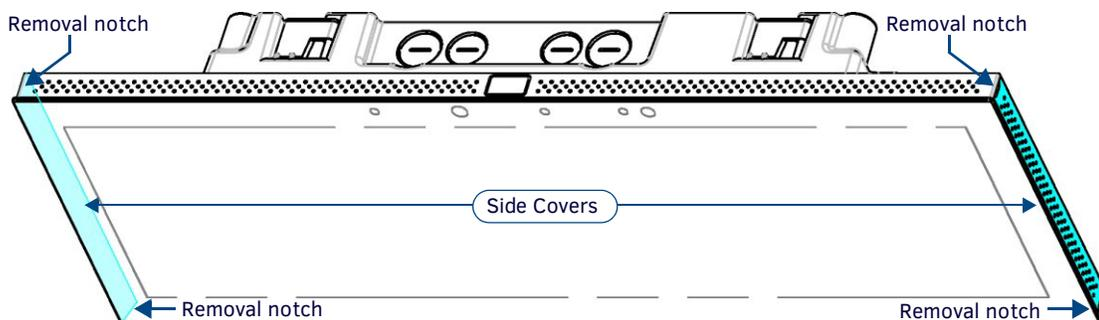

FIG. 35 MXD-1900L-PAN Side Covers (highlighted in blue)
1. The MXD-2000XL-PAN and MXD-1900L-PAN have removable side covers on the left and right (landscape) or top and bottom (portrait) (FIG. 35).
Note that FIG. 35 shows the MXD-1900L-PAN, but the illustration applies equally to the MXD-2000XL-PAN. Also note that FIG. 35 shows a landscape panel but the installation of a portrait panel is essentially the same, other than the vertical orientation: